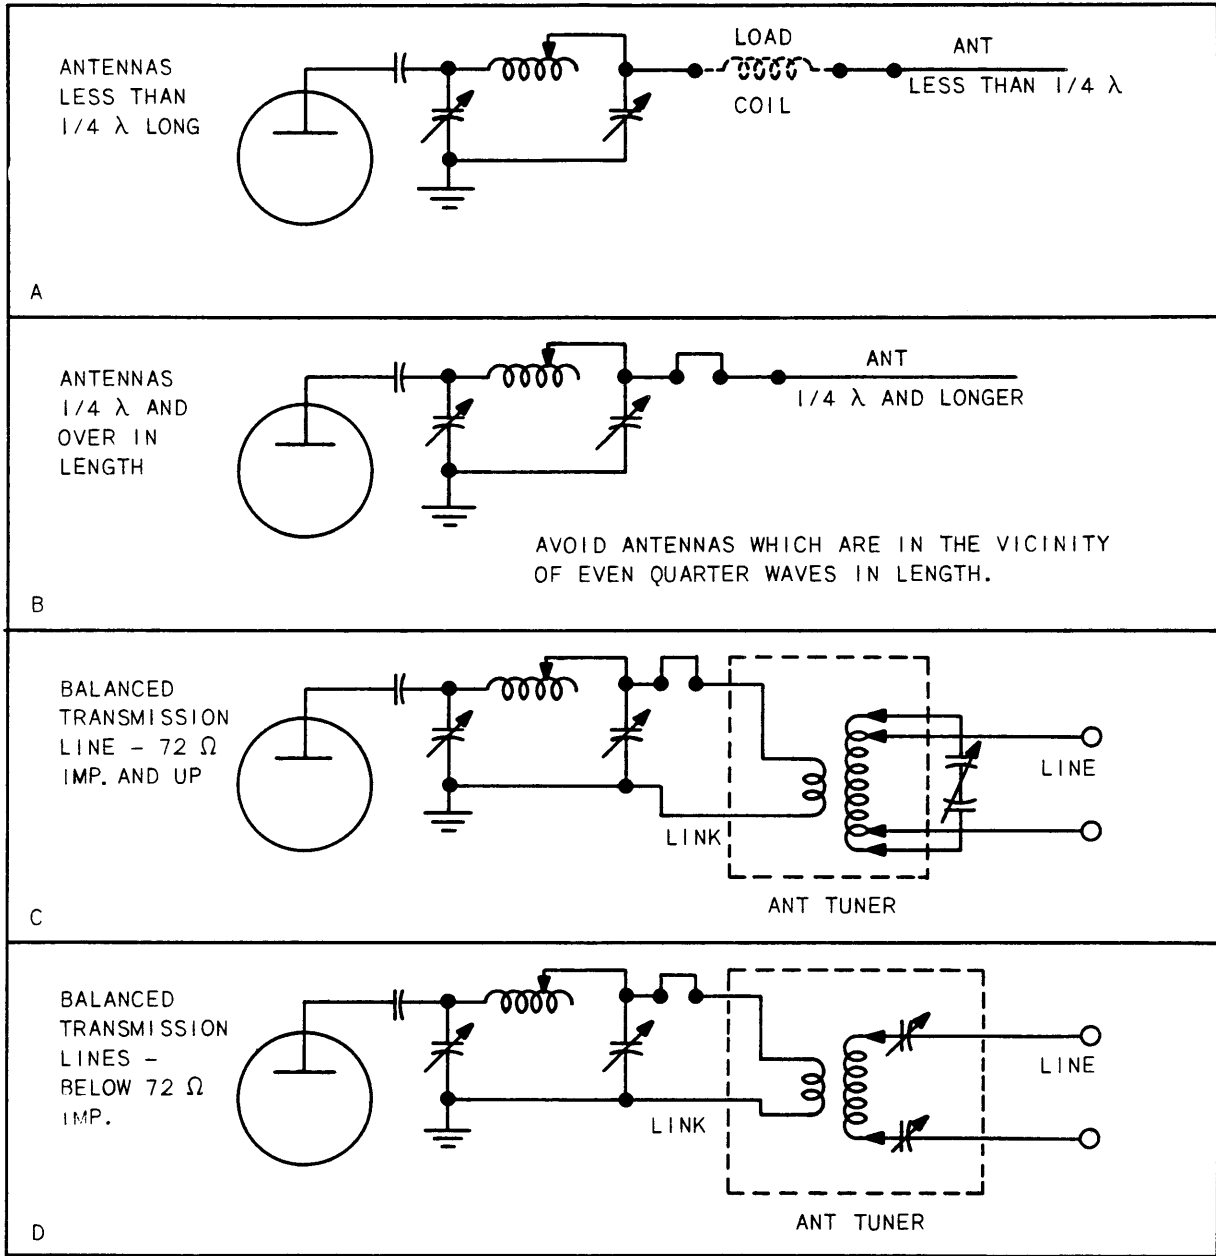

Figure 2-5. Applicable Antenna Circuits
(2) MICROPHONE - The push-to-talk and microphone connections are made by means of Amphenol type MC 4M four-connector plug. The microphone receptacle is located at the rear of the modulator chassis and the microphone cable may enter the side of the cabinet; a $7/8$ " hole is provided. The ring on the microphone plug should be securely tightened. For LOCAL push-to-talk operation, remove the jumper from terminals 5 and 6 on unit C (speech amp and modulator), and place TEST KEY in the "locked" position.
(3) RADIATION SYSTEM - The output networks will match an extremely wide range of antenna impedances with excellent efficiency. At lower frequencies, and for antenna less than a quarter wave in length provision is made for load coils which will assist in matching the antenna impedance. Unbalanced antenna and single wire or concentric transmission lines can be matched directly. See figure 2-5 for suggested antennas and circuits. Refer to paragraph ag. of table 1-4 for a description of the usable output impedances.